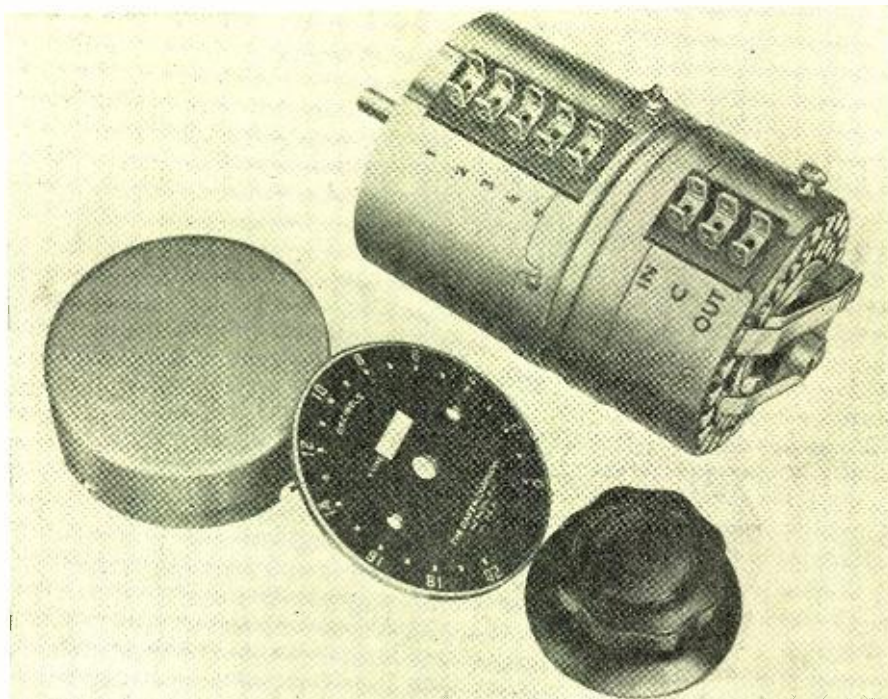

Fig. 4. Daven type LAC 720 tone compensating ladder attenuator. Notice the five extra contacts to convert this unit to a straight ladder if desired.
Fig. 7. (A) Electrical connections of the LAC 720 shown in Fig. 4. (B) Schematic of the compensated potentiometer. Build-out resistors keep total impedance constant.